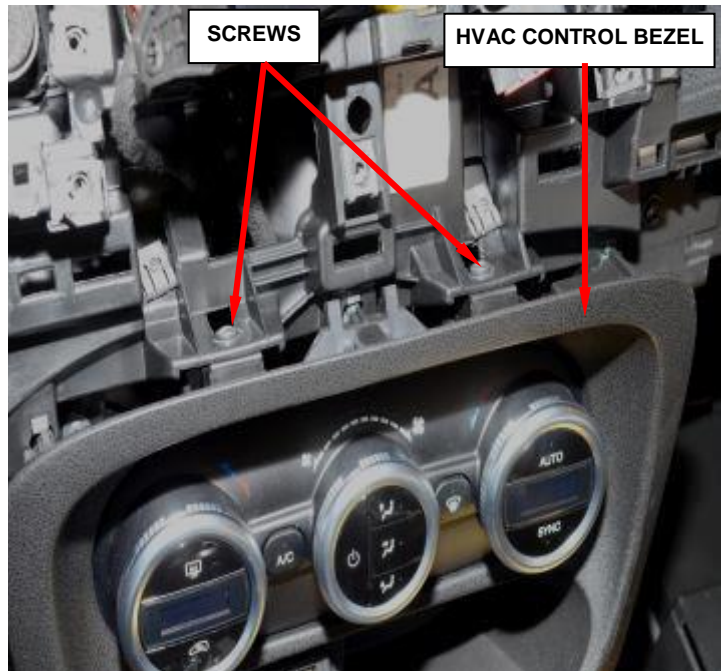

Figure 31 - HVAC Control Bezel
42. Remove and save the two upper screws from the HVAC control bezel (Figure 31).
80. Position the HVAC control bezel into the vehicle (Figure 31).
84. Install the two upper screws into HVAC bezel and tighten securely (Figure 31).